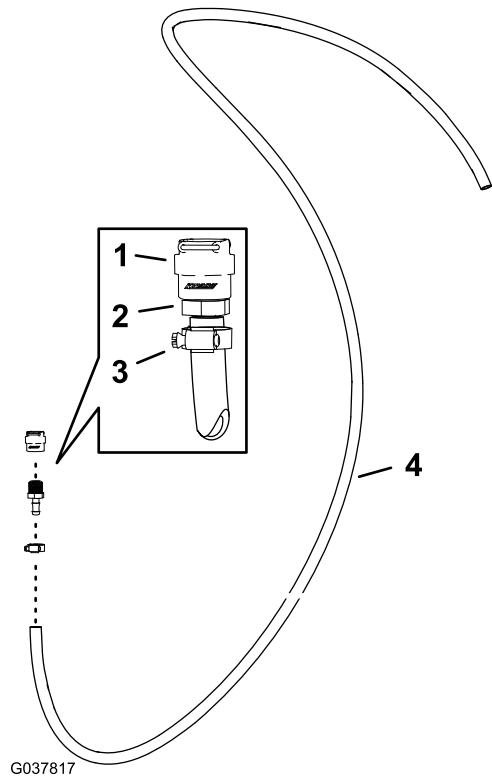

**Figure 92**
- Assemble the nylon bracket and washers to the valve mount with 4 bolts (6 x 16 mm) as shown in Figure 92.